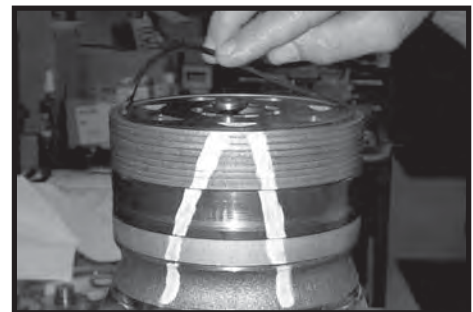

Figure 48
Apply grease to a **new** seal ring (4) and insert it in the seal ring groove exposed on the manifold. SEE FIGURE 48.